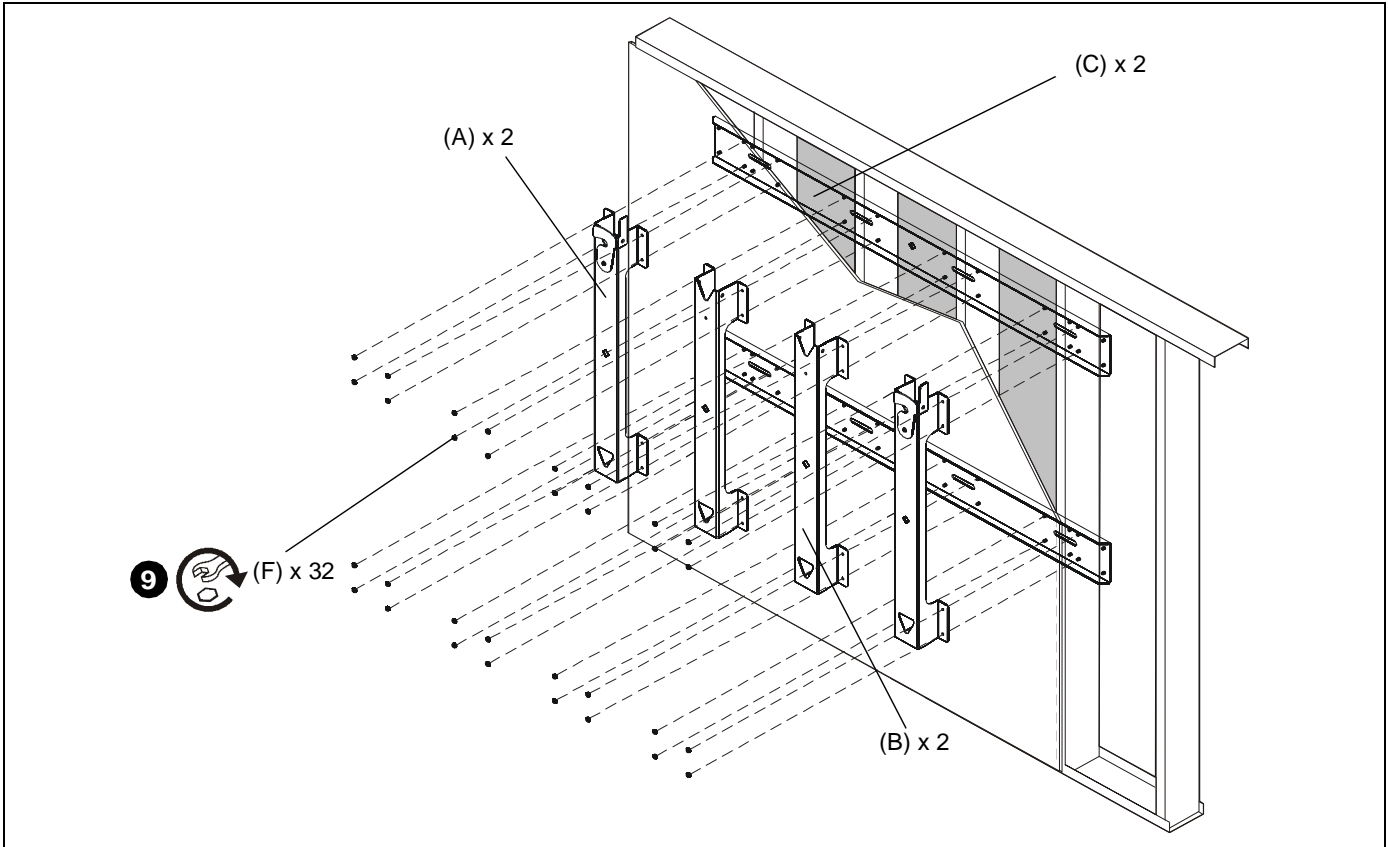

Figure 3
- Attach two outside vertical brackets (A) and two inside vertical brackets (B) to two horizontal brackets (C) using thirty-two 5/16-18" nylon lock nuts (F). The outside vertical brackets installed must be attached as the outer two brackets. (See Figure 3)